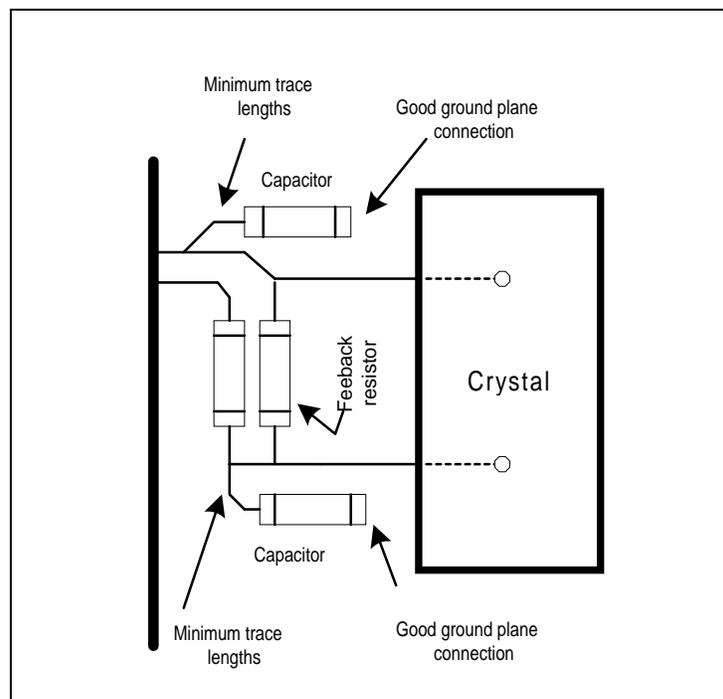

Figure 17. Crystal Solution
1. Place the two bypass capacitors, the series output resistor and the amplifier feedback resistor as close as possible to the HSD crystal pins to reduce induced noise levels and minimize any parasitic inductance and capacitance which could affect the crystal oscillator (Figure 17).
2. Keep the traces to the HSD crystal pins, XTLI (pin 23) and XTLO (pin 24), extremely short with no bend greater than 45 degrees and containing no vias (Figure 17).